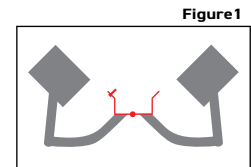

Figure 1
- By hand, open the Shelving Unit Arm Assembly at its central pivot point. (fig. 1)